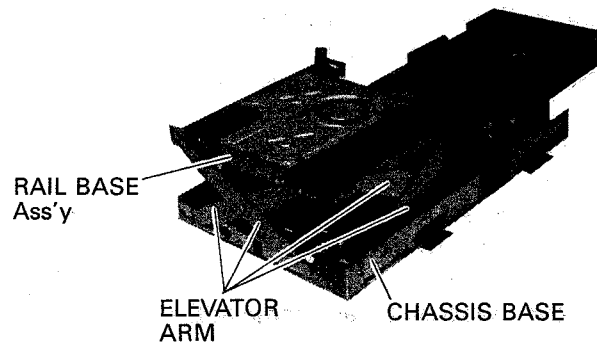

Fig. 7
1. Remove the 2 screws(K) fastening the MAGAZINE HOLDER.
2. Remove the DETECTOR SWITCH P.C. Board and connector (L).
3. Slide the MAGAZINE HOLDER to direction of ①.
(7) Removing the LIFTER UNIT Ass'y (Fig.7)